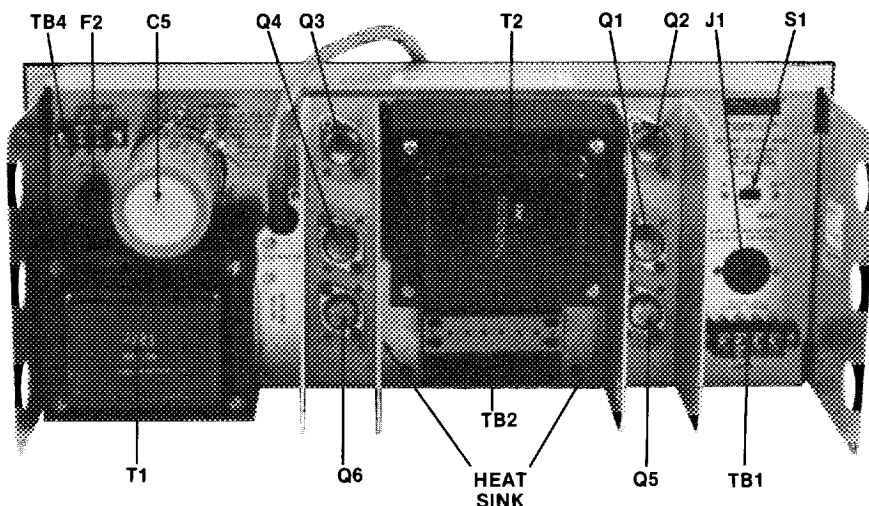

Figure 5. Component Locations on Rear of Chassis
- (b) Remove two screws securing Power Drive PCB to chassis and lower PCB on hinged connector. Connect a millivoltmeter across resistor R2 (see Figure 5). Adjust R136 for meter reading of 400 mV. Connect millivoltmeter across resistor R3 and adjust R137 for meter reading
The ac primary power fuse is mounted on the front panel. The battery power fuse is located on the rear of the chassis (see Figure 5). If fuse replacement is required, determine and correct any cause of failure before replacing fuse. Install an identical fuse (see **PARTS LIST**) by unscrewing fuse holder, replacing fuse and resealing fuse holder.